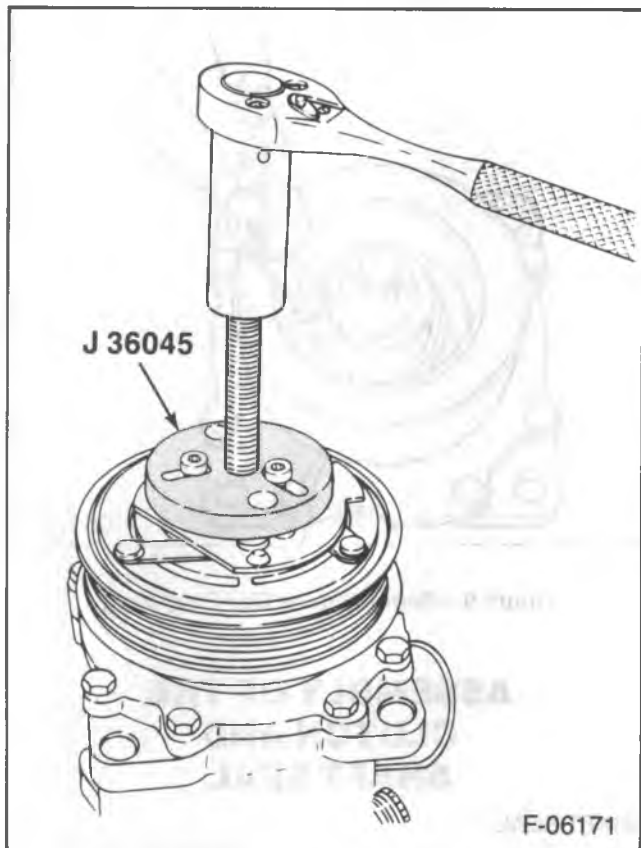

Figure 4—Removing the Clutch Plate
2. Clutch front plate using J 36045 (figure 4).